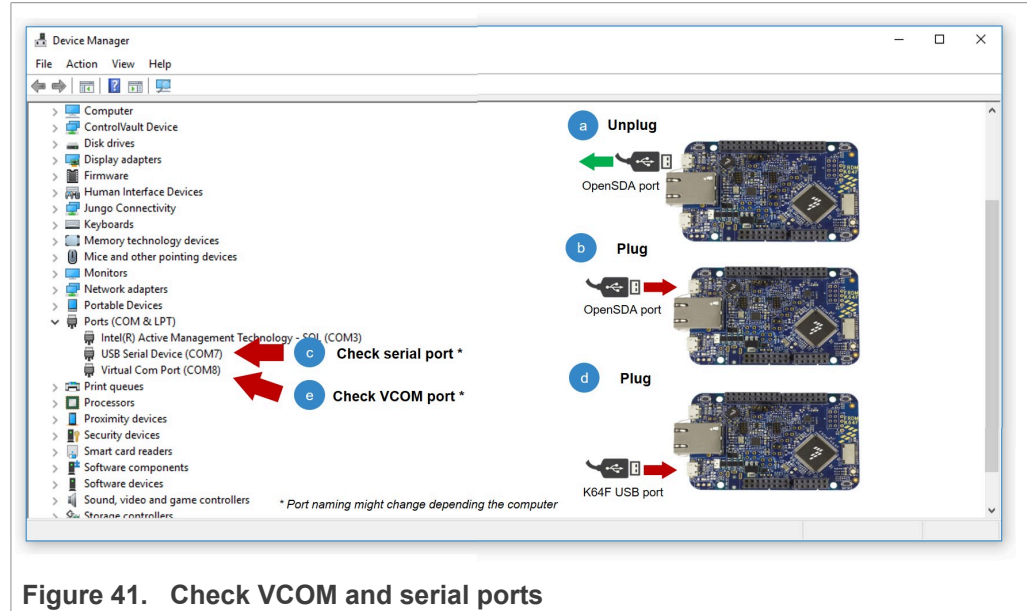

Figure 41. Check VCOM and serial ports
5. The serial and VCOM ports should be recognized by your Device Manager. To check that the ports are recognized, follow the steps indicated in Figure 41: